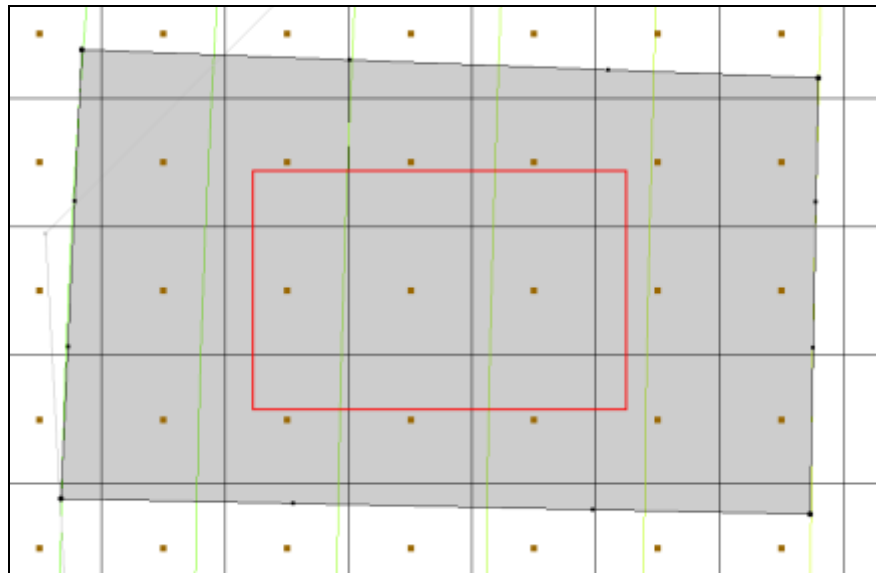

Figure 5 The polygon created from the boundary arcs
4. Click **Build Polygons**  to create a polygon from the arcs. The polygon is indicated by the area within the arcs changing to a light gray (Figure 5).